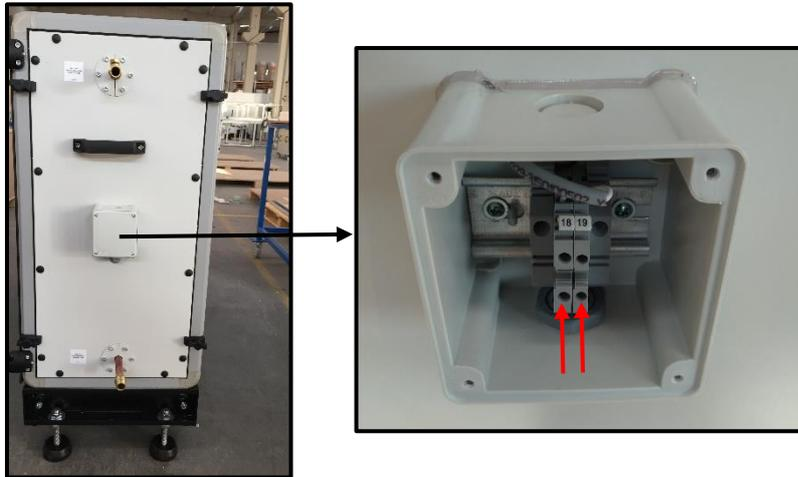

Fig. 49
- Connect the cables to the terminals and close the terminal box cover. Refer to the electrical diagrams (chapter 8) for cable connections (Fig. 49)